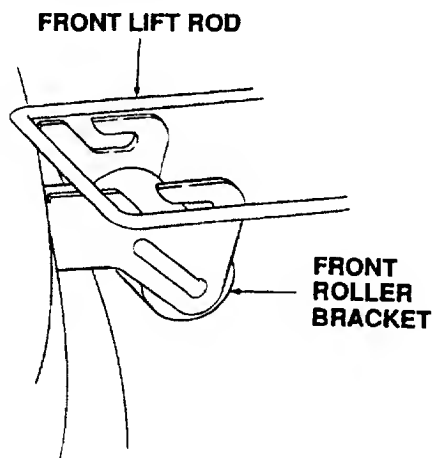

Figure 41
10. Raise the tractor implement lift handle to its highest setting. Slide the mower deck forward, so the front lift rod rests to the rear of, and free of, the front roller bracket slots of the deck. (Refer to Figure 41.)